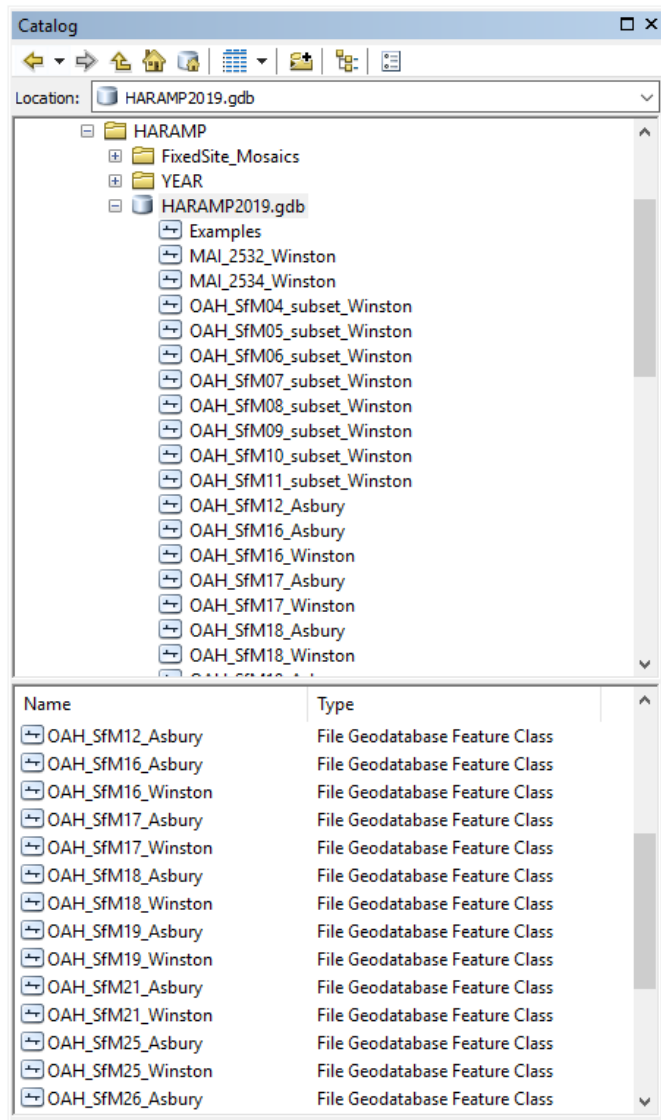

Figure 31. Screenshot of the Catalog window in ArcMap, showing a geodatabase with the different site annotations shown as shapefiles.
2. Navigate to your geodatabase, and use the Toggle Contents Panel button to change the view (Figure 31).
2. Create a table in Excel that will be converted to your domains in the GDB. This step will create the attribute domains you will have in the geodatabase. Attribute domains are rules in a geodatabase used to constrain the values allowed in any particular attribute for a table or feature class within, which will let the analyst utilize a standard drop down menu. We use short codes that make conversion into our data cloud easier, although these can be full names according to what you are surveying (Figure 32). Name this table according to the geodatabase you are creating (we name according to location and year for better organization; Figure 31).